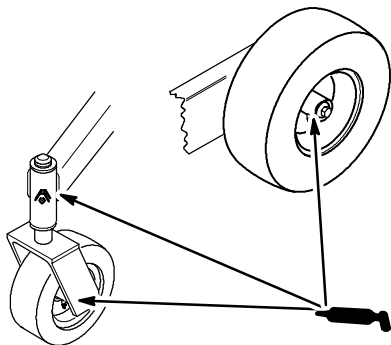

Figure 32
1. Lubricate the front wheel bearings and front spindles until grease begins to ooze out of the bearings (Fig. 32).
2. Remove rear wheel grease cap. Lubricate the rear wheel bearing (Fig. 32).